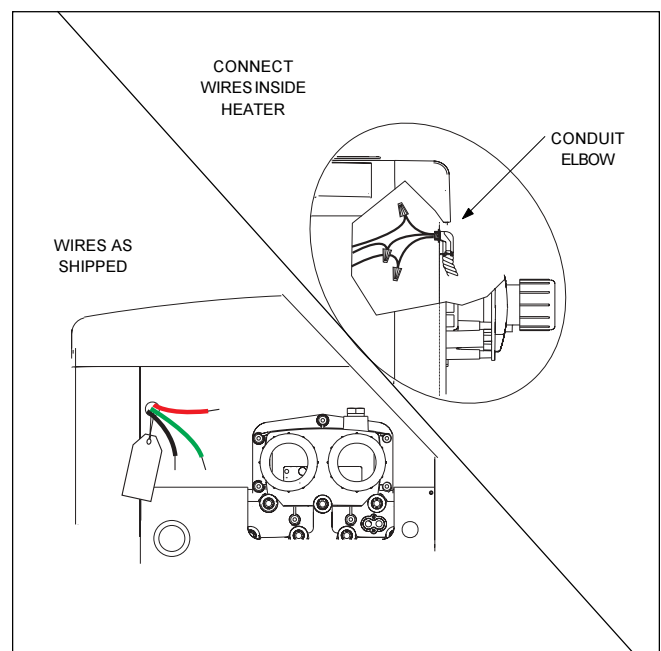

Figure 17. Field Wiring Connections
3. Connect the wires from the power source to the leads on the right side of the heater in the space behind the raceway. You may need to remove the control to gain access to the leads (See Fig. 17).